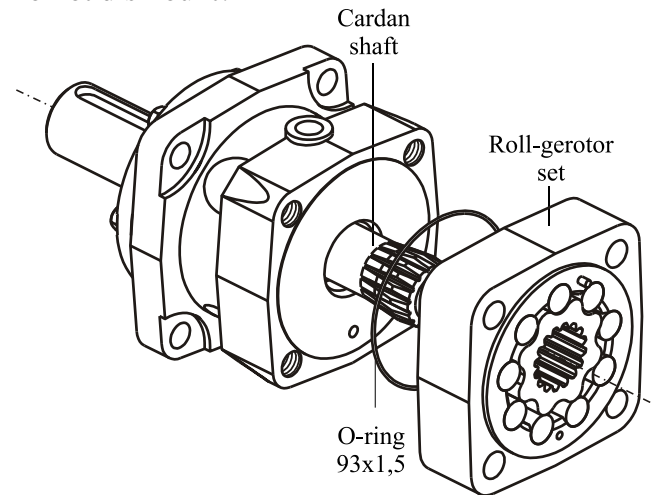

Fig.3
7. Remove O-ring 93x1,5 from the housing (виж Fig.3).
10. Lubricate and install O-ring 96x1,5 in housing seal groove (Fig.3).
ATTENTION: Orient the drain channel of roll-gerotor set according to drain port of housing as shown on Fig.3